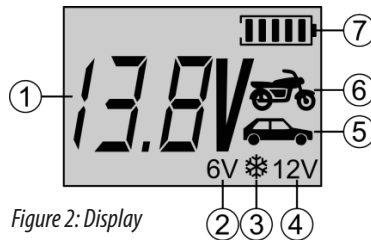

Figure 2: Display
The battery symbol (7) (Figure 2: Display) shown on the display indicates the current filling level of the battery.